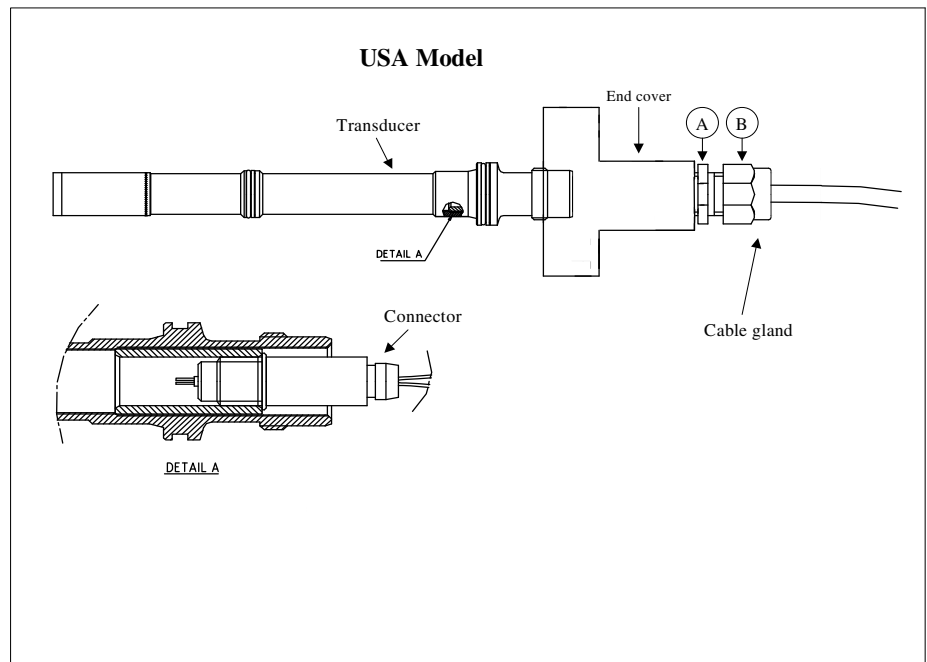

Figure 7 Cable Gland and End Cover (USA)
- A. If removed, mount part A of the cable gland to the End Cover, see Figure 7 below. Use Locktite 577 or equivalent on the threads.